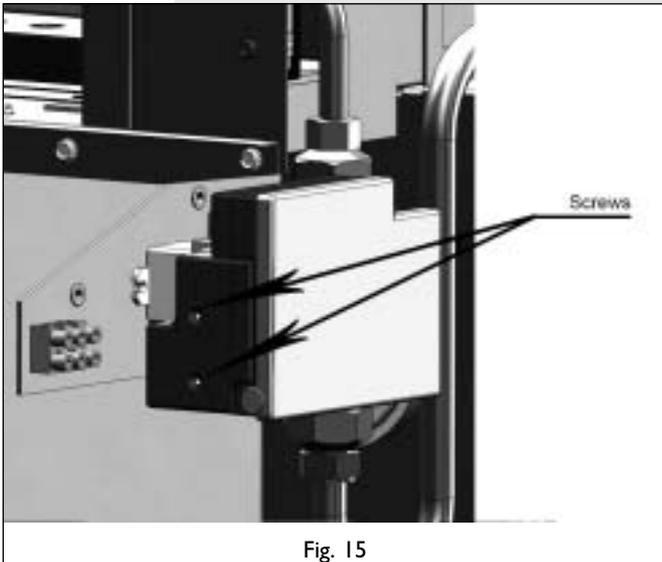

Fig. 15
- Take out the 2 screws of the cover on the automatic ignition sequence (see fig. 15) (the upper screw is used to fix the automatic burner to the gas control valve; the lower screw fixes the cover)